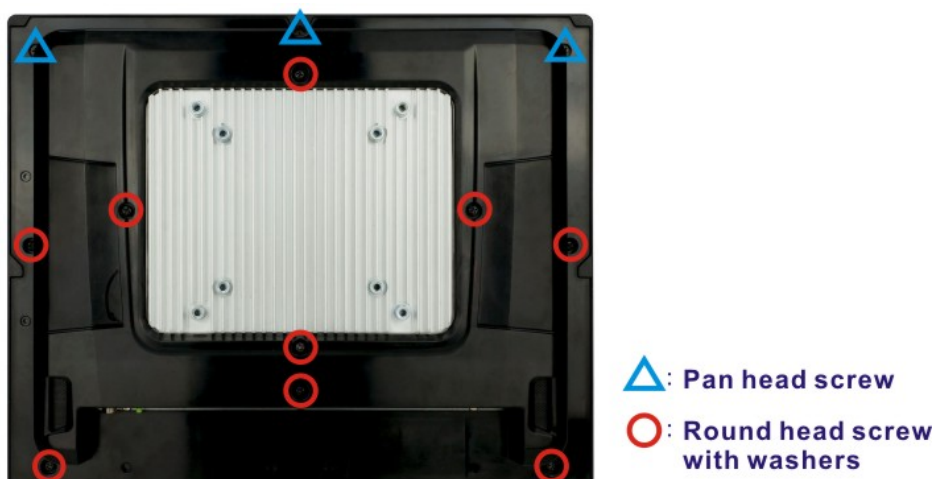

Figure 3-1: Back Cover Retention Screws
- Step 1:** Remove 12 retention screws from the back cover. Two types of screw are used for securing the plastic cover of the AFL3-12C-ULT3. Be aware of this for reinstalling the plastic cover. See **Figure 3-1** for detail.